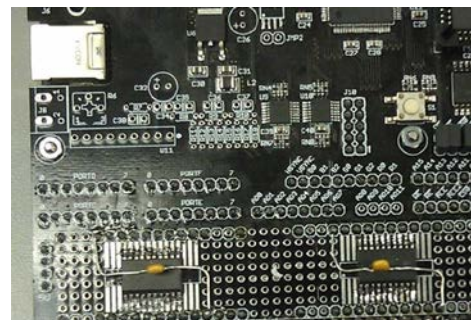
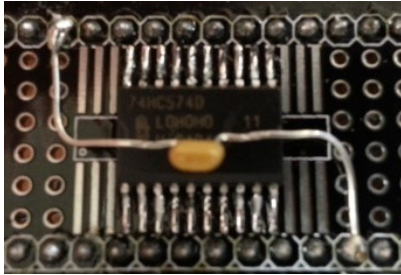

Figure 2: Placement of 74'573 (bottom left) and 74'574 (bottom right) on uTinkerer.
Figure 3: Example capacitor placement across a chip.
2. Solder your 74'573 and 74'574 chips to the surface mount area of your uTinkerer, as described below. Figure 2 shows the placement of the 74'573 and 74'574.
- a. Place the 74'573 surface mount chip in the left surface mount position just above your LED bank, as shown in Figure 2. Begin by soldering the two corner pins to chip in place. Add two single row 10-pin headers on either side (above and below) the 74'573. You will wire wrap to these header pins in lab 3. Solder a 0.1 μ F bypass capacitor between the header pins corresponding 74'573's Vcc and GND pins, i.e., pins 10 and 20 (as shown in Figure 3). Before soldering the capacitor, trim the leads appropriately. Be careful that the capacitor leads will not touch any non-desired pads or pins.